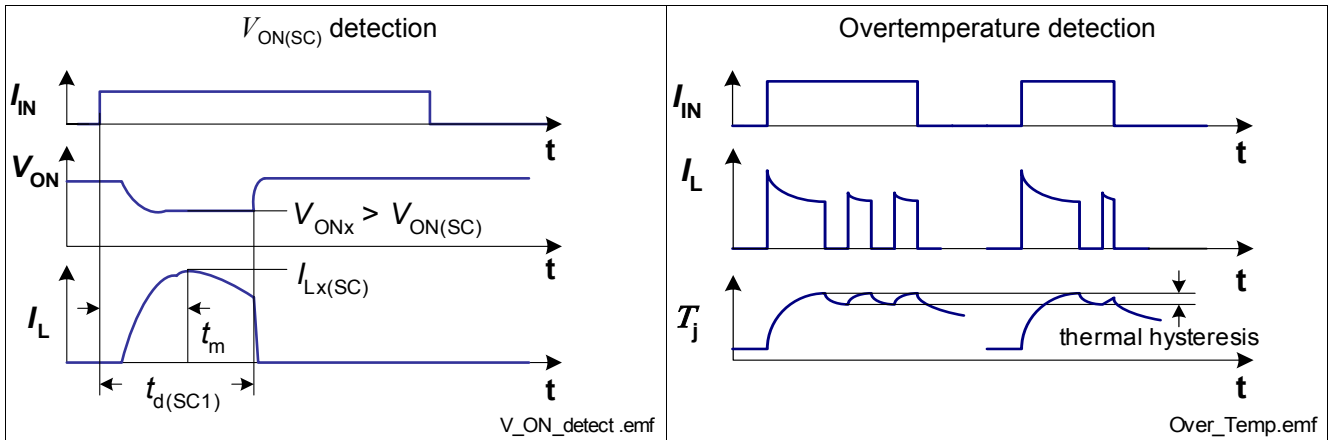

Figure 12 Overload Behavior
In the event that either the short circuit detection via  $V_{ON(SC)}$  is not activated or that the on chip temperature sensor senses overtemperature before the blanking time  $t_{d(SC1)}$  expired, the device switches off resulting from overtemperature detection. After cooling down with thermal hysteresis, the device switches on again. The device will react as during normal switch on triggered by the input signal. Please refer to **Figure 12** and **Figure 19** for details.
- 2) Short circuit current limit for max. duration of  $t_{d(SC1)}$ , prior to shutdown, see also Figure 12.